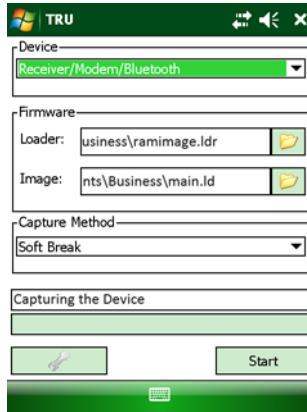

Figure 4-7. TRU – Uploading Firmware
- Click **OK** to continue uploading new firmware to the receiver (Figure 4-7).